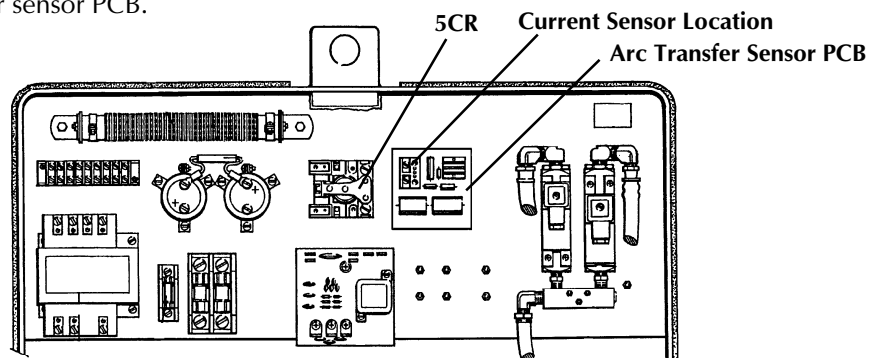

Figure 1 HT400 Center Bail and Location of Arc Transfer Sensor PCB
4. Locate the center bail. See Figure 1.
1. Cut the terminal lugs off of the two 10 AWG wires that were screwed into the old current sensor (Figure 1).
7. Place the stripped wire from 5CR (Figure 1) into the other end of the 074250 splice.